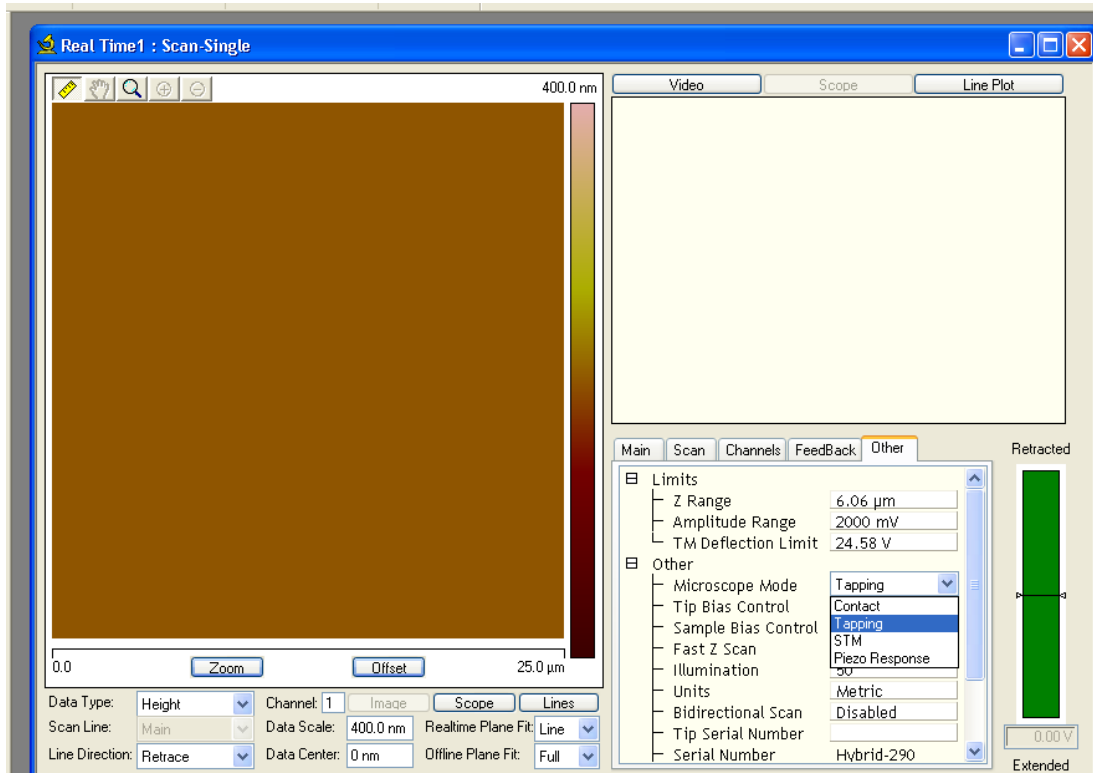

Figure 9. Scan-single window with menus to define the mode of operation from the "Other" tab – note the Microscope Mode: "Tapping".
2. If you don't yet have the scan-single window open, click on the Real Time menu at the upper left menu line and then click on Scan-Single to bring up the Real Time 1 Scan-Single window as shown in Figure 9 below.